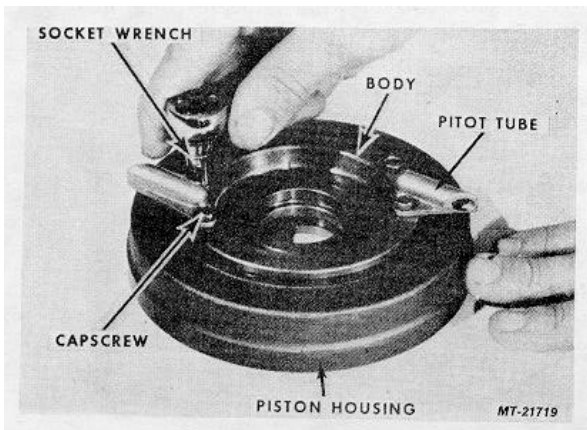

Fig. 27
24. Remove Capscrews and Pilot Tubes, Fig.27.